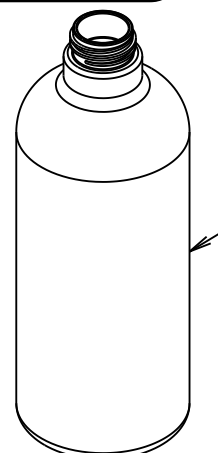

Fig. 3
- i) Drill two Ø6mm holes, 40mm deep and 104mm apart horizontally as shown in Fig. 3.
- ii) Insert small end of wall plugs (15) into drilled holes and tap until flush with wall/tile face.
- iii) Align the slots on fixing plate (14) with the holes on the wall, pass the screws (13) through the slots and insert into the wall plugs (15). Then tighten the screws. DO NOT OVERTIGHTEN.
- i) Drill two holes at 104mm apart horizontally to suit the self tapping screws supplied as shown in Fig. 3.
- ii) Align the slots on fixing plate (14) with the holes on the wall, pass the screws (13) through the slots and insert into the holes in the stud. Then tighten the screws. DO NOT OVERTIGHTEN.
- Fill full soap into bottle (16), then screw soap bottle (16) into the soap control unit (12).